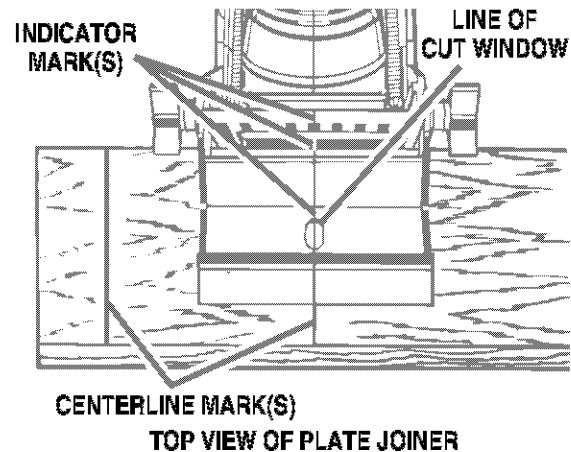

Fig. 7
See Figures 7 and 8.
- Place the fence against the board and align the indicator marks on the fence with the centerline mark(s) on the board. See Figure 7.